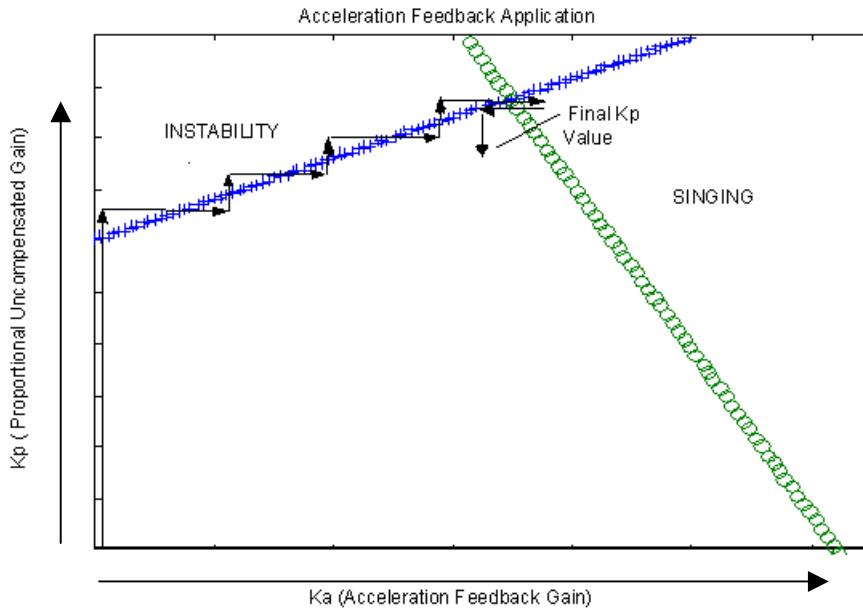
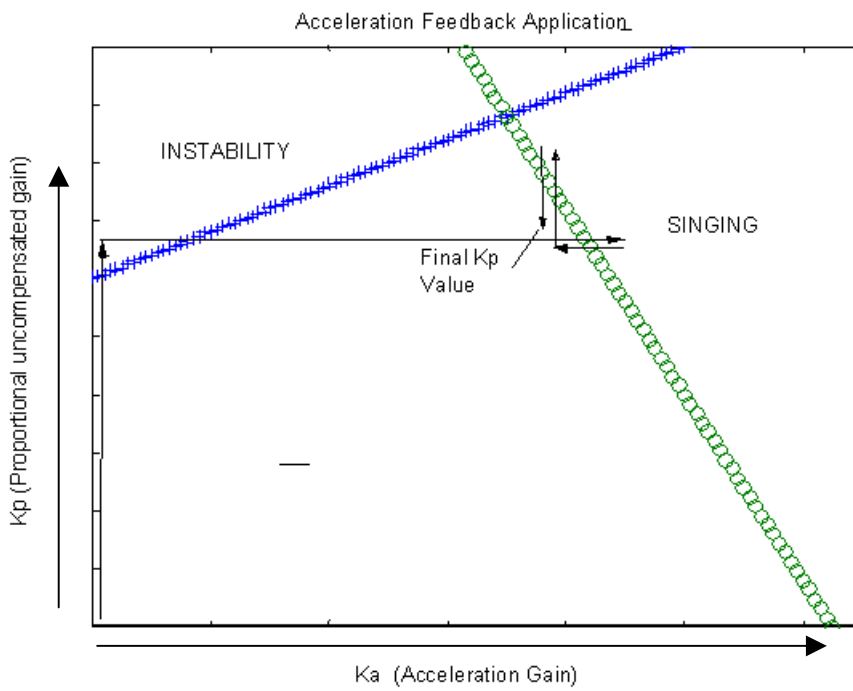

Figure 22
Figure 23
4. Repeat these steps, raising the values of  $K_A$  and  $K_{P1}$  until final values of  $K_A$  and  $K_P$  are found (see figure 22). The final value of  $K_P$  obtained during this process is referred to as  $K_{P3}$ .
**NOTE:** It is necessary to increase the amount of acceleration feedback slowly in iterative steps as shown in figure 22, so that the maximum value of  $K_P$  can be found. This is in the peak between gain induced instability line and acceleration induced instability line. The consequence of increasing the acceleration feedback in one large step without increasing the proportional gain on intermediate steps is illustrated in figure 23, note the final value of  $K_P$  is far lower than in that obtained in figure 22.